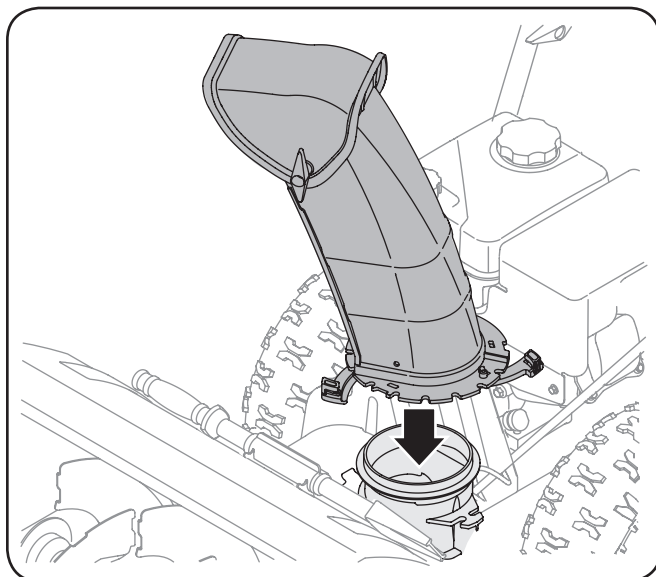

Figure 3-19
1. Position the chute assembly over the base. See Figure 3-19.